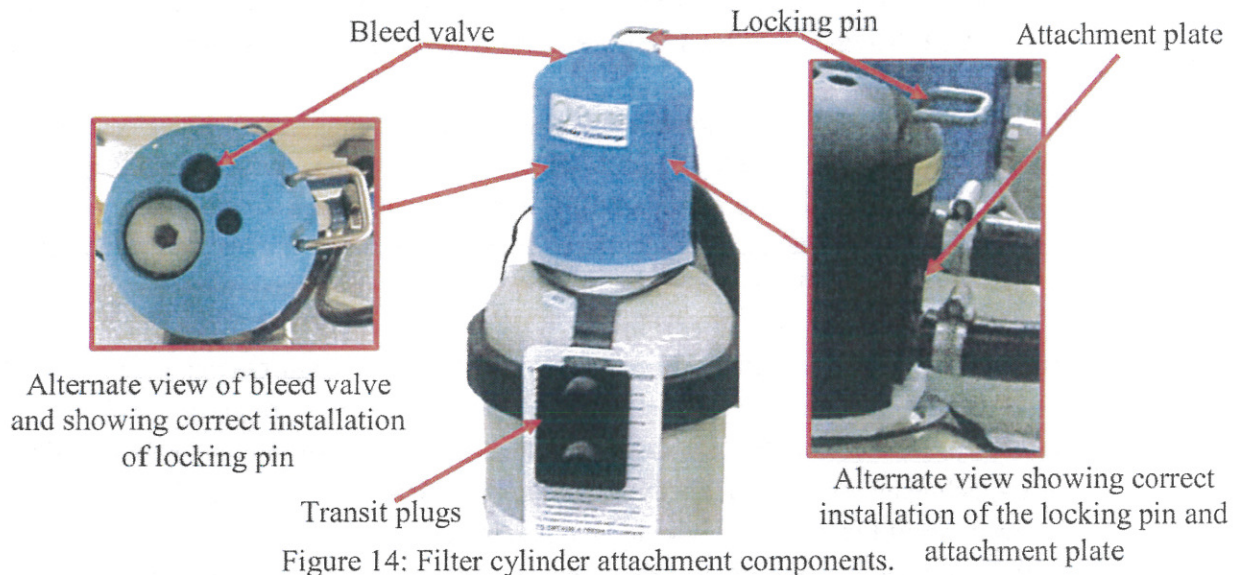

Figure 13: Location of the isolation taps.
6.8.4. **Isolate the Water.** Isolate the water supply from both sides of the filter raft, using the isolation taps shown in Figure 13:
- 6.8.14. **Reinstate Isolation Taps.** Reinstate the all isolation taps, identified in Figure 13: so that they are in line with the pipework.